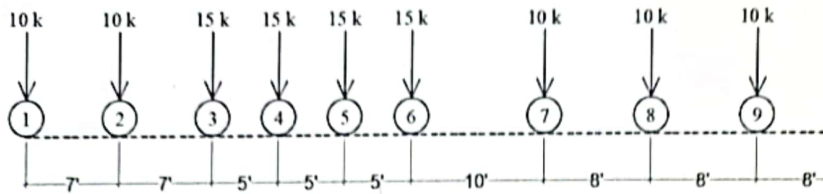

Fig. 4
- a) For the shear force and bending moment diagram, explain the following terms: (10) 2
- b) For the wheel load arrangement shown in Fig. 4, evaluate the value of any of the followings: (30) 2